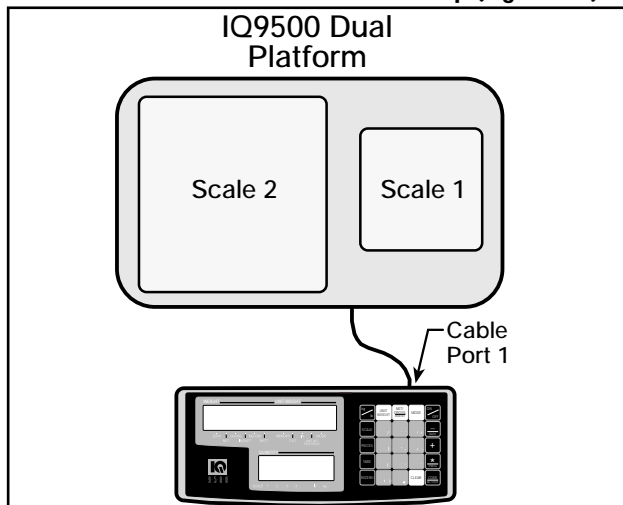

Figure 7-3. Diagram of Dual-Platform Scale Setup
7.2.2 Dual-Platform IQ9500 Scale Setup (Figure 7-3)